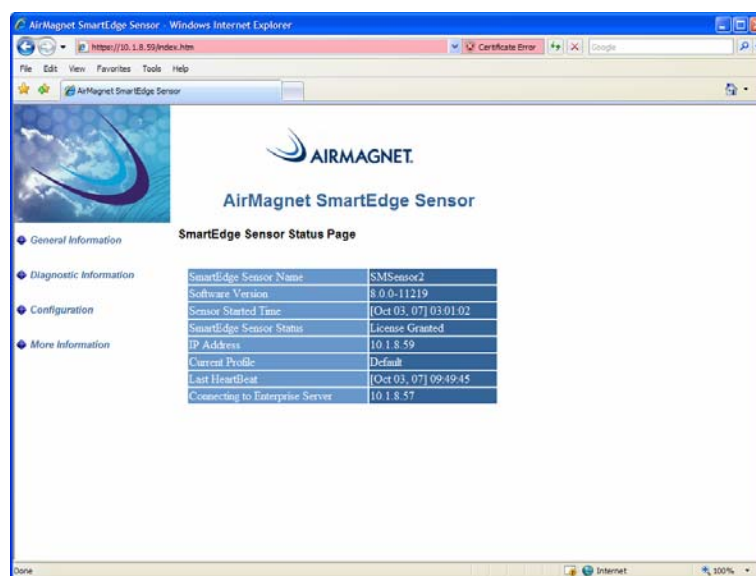

Figure 4-49: AirMagnet SmartEdge Sensor Web page
- 4) Enter the user name and password of the sensor, and click **OK** to continue. The sensor's Web page appears. See Figure 4-49.